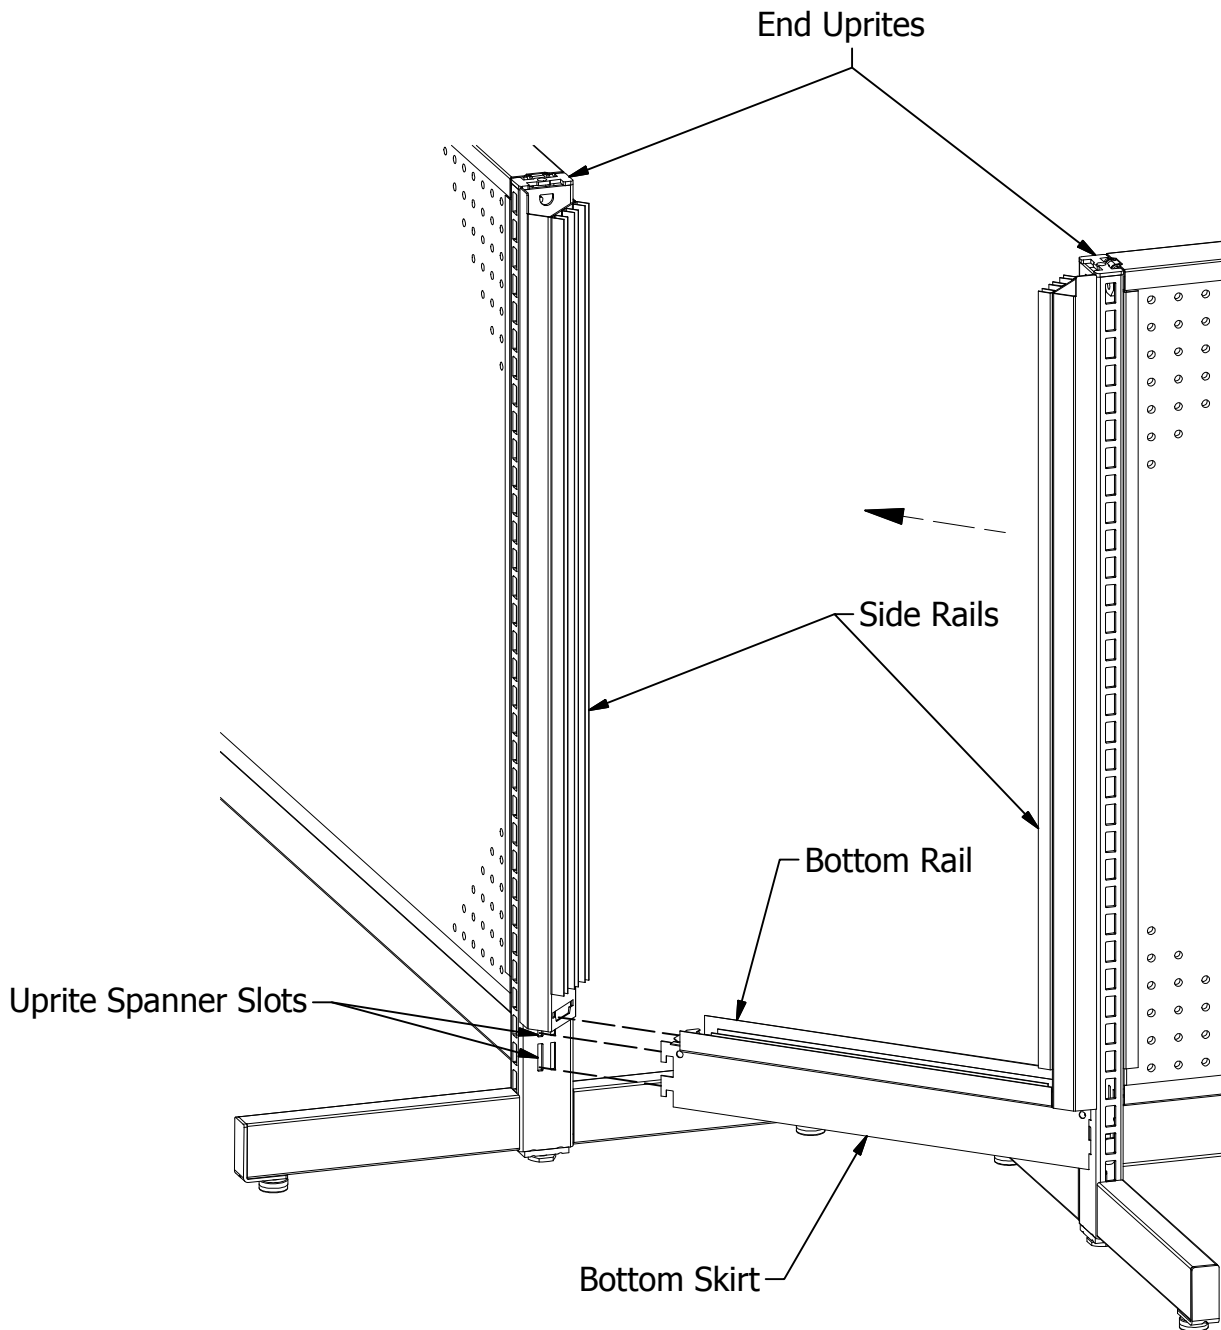

Figure 4
STEP 5: Bring the two End Uprites closer together and install the Bottom Skirt and Bottom Rail on other Uprite/Side Rail as explained in Steps 3 & 4. (See Figure 4)